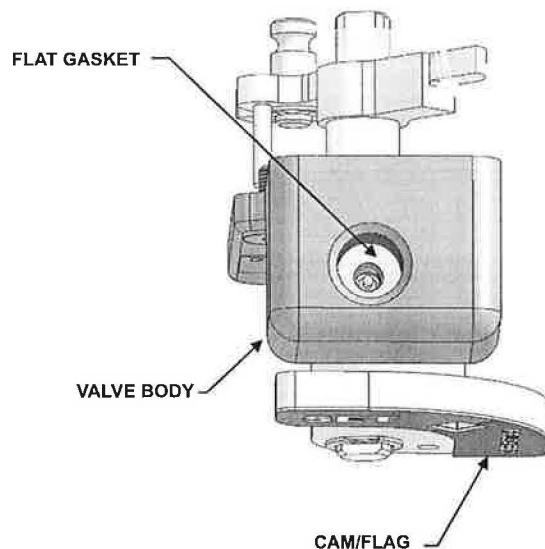

Figure 5-3. Valve Body and Flat Gasket Location
5. Check flat gasket inside valve body. If damaged, replace (see Figure 5-3).